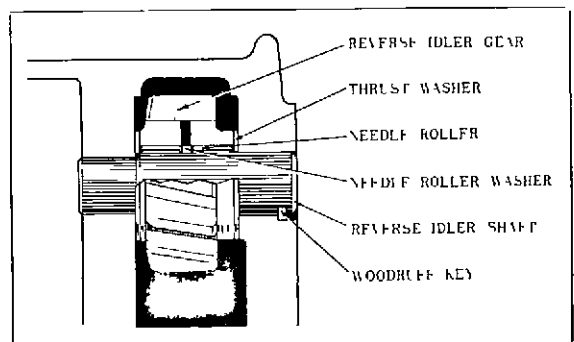

Fig. 3 39. Reverse idler gear.
1. Apply grease in the bore of the reverse idler gear and install the fifty-six needle rollers and the needle roller washer. Put in place the reverse idler gear and the two thrust washers, and gently drive the reverse idler gear shaft in the case from the back. Then lock the shaft with woodruff key at the rear end (Fig. 3 39).